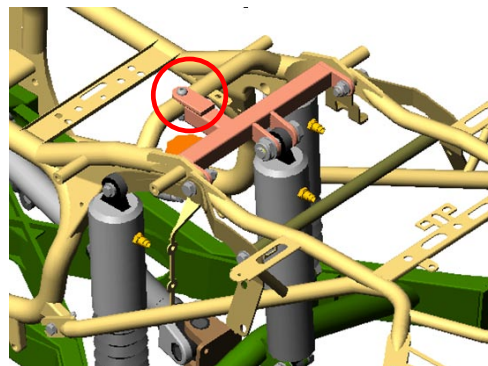

Figure 55
- b. Press down hard on the seat to transfer a mark from the shock mount bolt (installed in step 4.3b, page 14) to the bottom of the seat. Figure 55